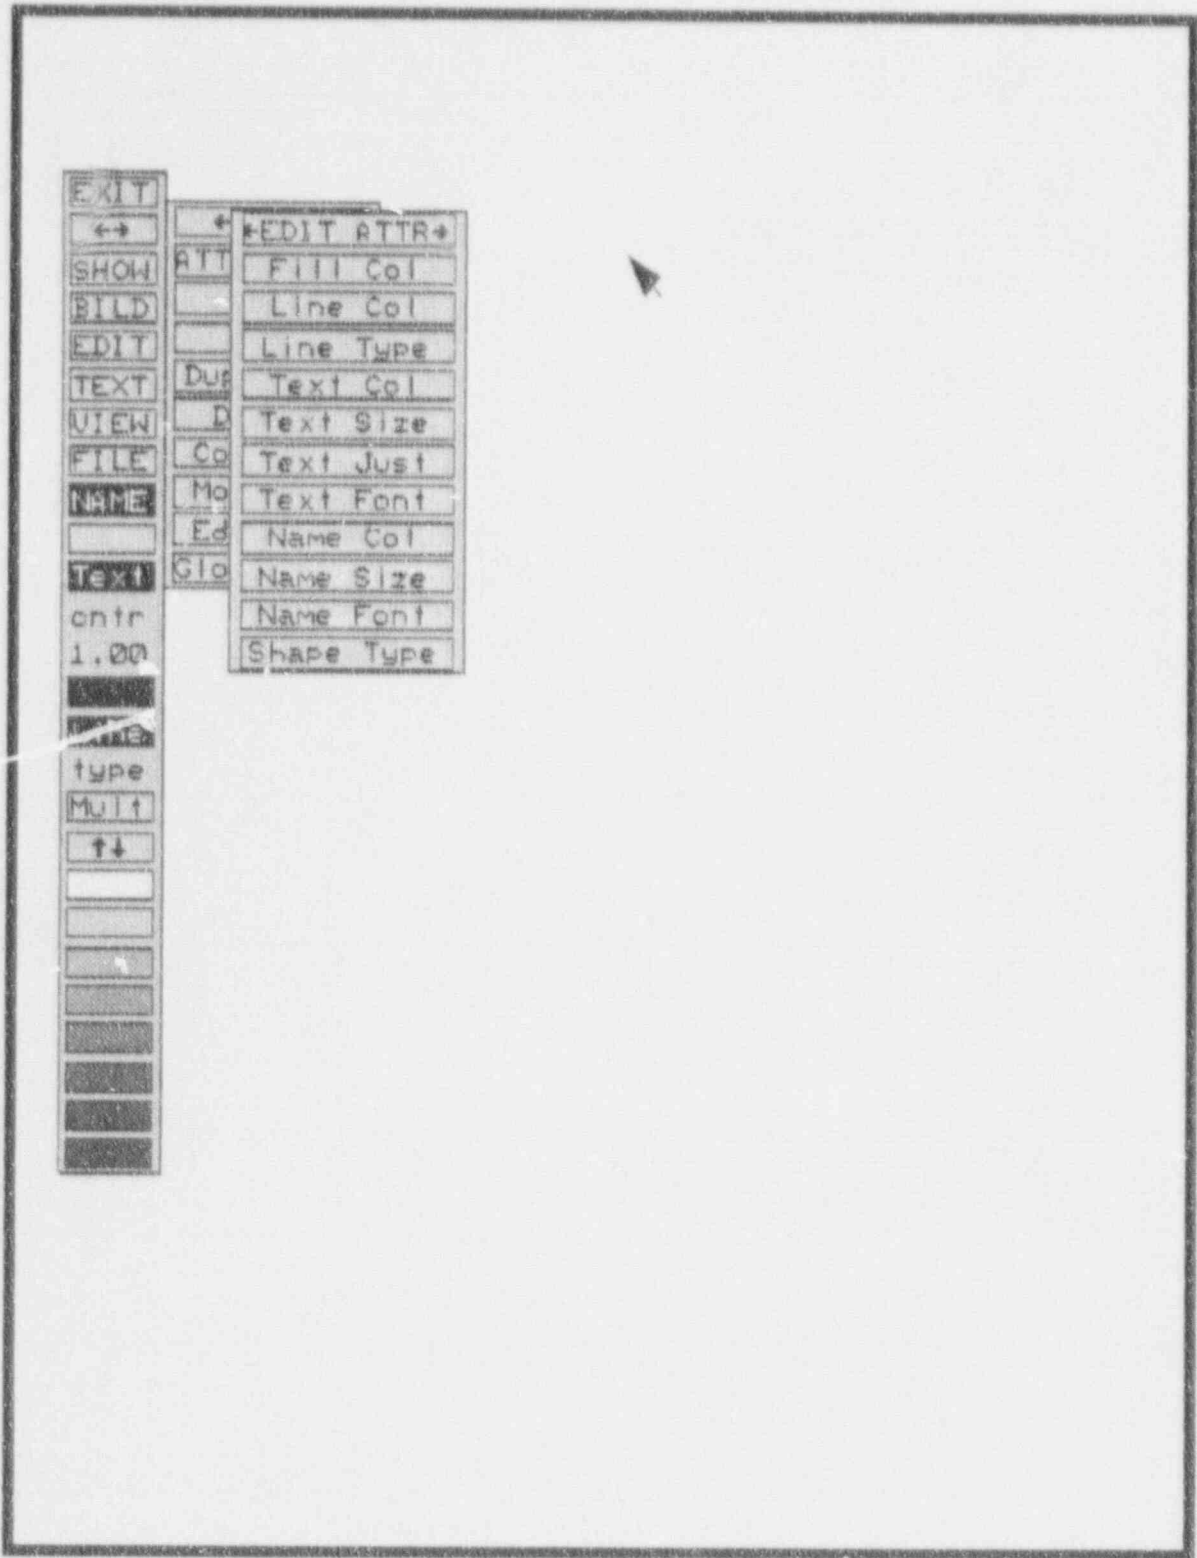

Figure 46. Attributes pop-up menu.
5.1.5.1 ATTRIBUTES. This option allows you to specify the actual attributes of the symbols and text used in the fault tree diagram. Attributes include text size, line type, fill, font size, etc. Changing the attributes does not affect the global (default) values. Only the specific objects selected while in the given mode (e.g., Fill Col, Line Col, etc.) will be affected. When you invoke this option an additional pop-up menu is displayed as shown in Figure 46. The following attributes may be modified: